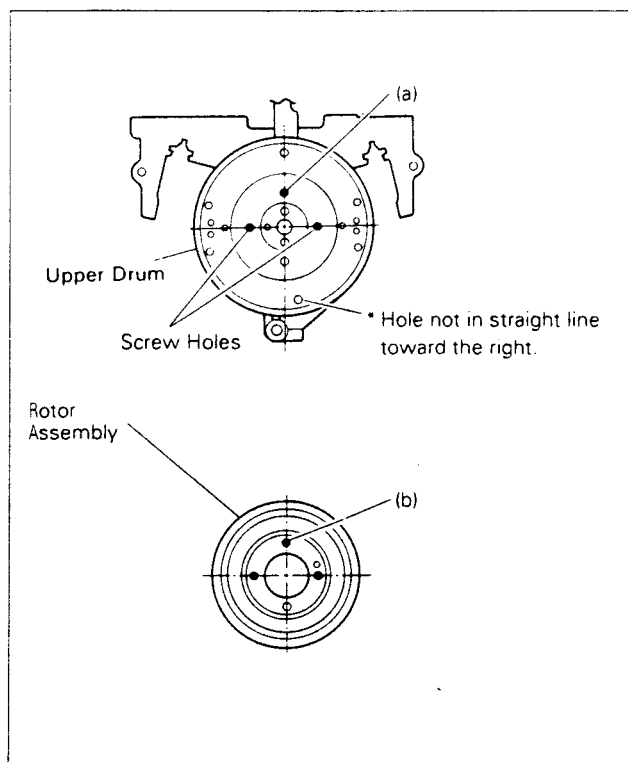

Fig. 2-4-3
- 3) Align the Upper Drum and Rotor Assembly phase as indicated in Fig. 2-4-3.
- 4) Overlap holes (a) of the Upper Drum with holes (b) of the Rotor Assembly (align holes in 3 locations) and secure with 2 screws (B) (see Fig. 2-4-3).